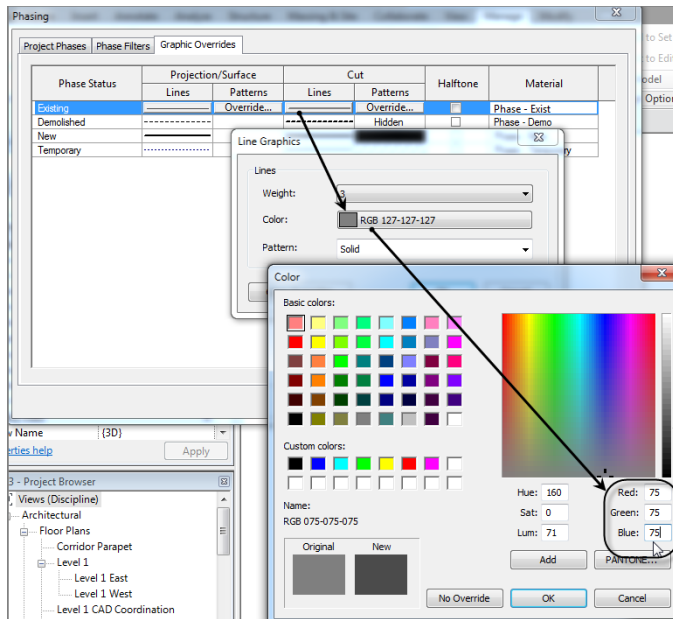

FIGURE 21.8: Making the existing shading darker
3. In the Existing row, for the Lines column under the Cut heading, click the button that displays a shaded line, as shown in Figure 21.8.
5. Change the shading of the line to **75, 75, 75** (see Figure 21.8). Click OK to exit all dialogs. The existing walls update in the views.